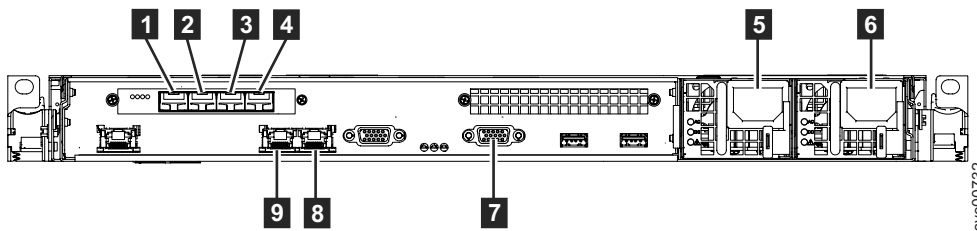

Figure 34. Connectors on the rear of the SAN Volume Controller 2145-CG8
1. Connect the Ethernet cables to Ethernet port 1, as shown by **9**, and Ethernet port 2 (**8**), in Figure 34.